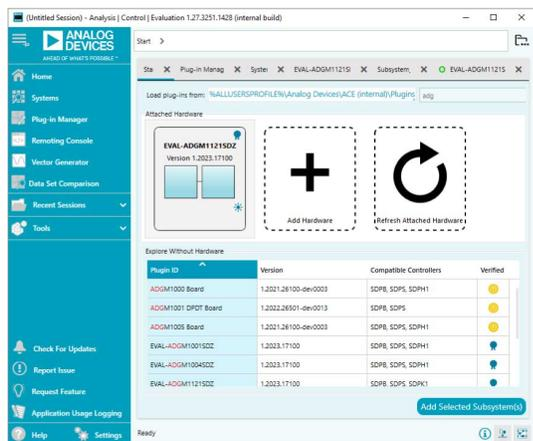

Figure 2. EVAL-ADGM1121SDZ Plugin Start-Up Window
5. Run the ACE software. The EVAL-ADGM1121SDZ plugins appear in the Attached Hardware window of the Start tab (see Figure 2).